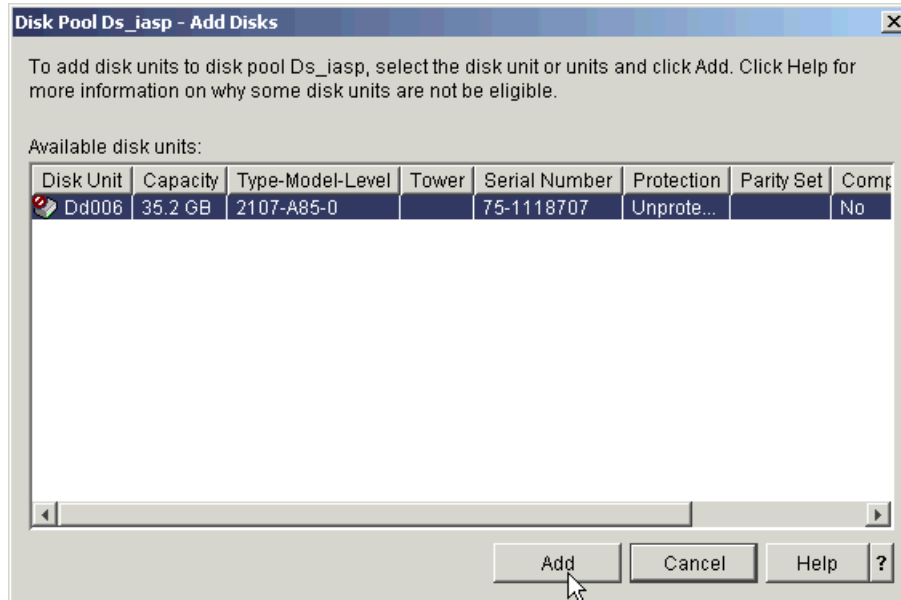

Figure B-15 Choose the disks to add to the Disk Pool
- A list of non-configured units similar to that shown in Figure B-15 will appear. Highlight the disks you want to add to the disk pool and click **Add**.